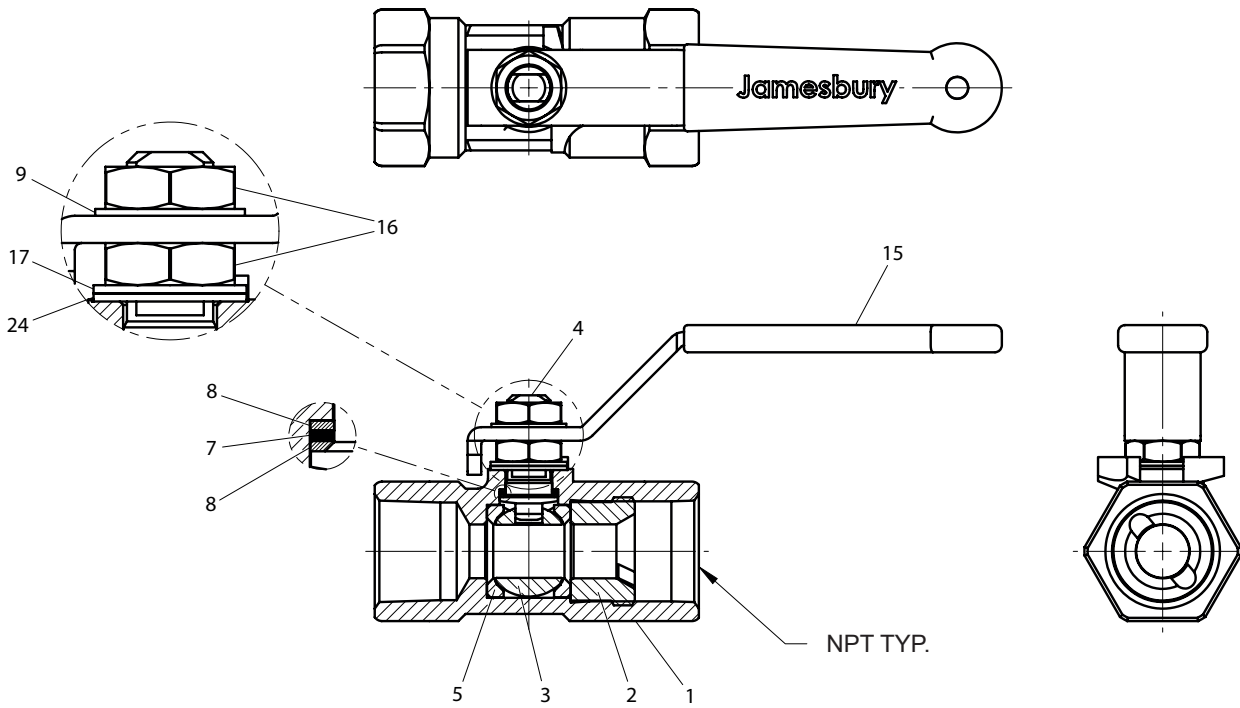

Figure 4.
If the Series 33R valve handle (15) has to be removed for any reason, the handles must be remounted with the handle stop tang as shown in **Figure 4**.
Good operating procedure requires periodic observation to ensure that the valve is functioning well. The frequency of observation will depend on the application. Routine maintenance consists of tightening the lower stem nut (16) periodically to compensate for wear caused by the stem turning against the seal. Loosen the upper stem nut (16) on top of the handle (15) before tightening the lower stem nut. Retighten the upper stem nut after tightening the lower stem nut. (See **Figure 4** and **Table 1**)